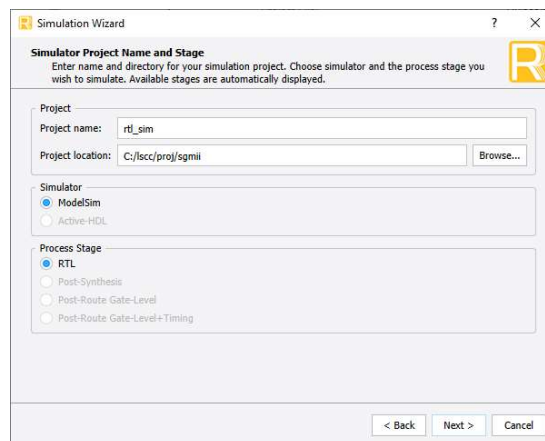

Figure 3.5. Simulation Wizard
2. Click the  button located on the **Toolbar** to initiate the **Simulation Wizard** shown in Figure 3.5.